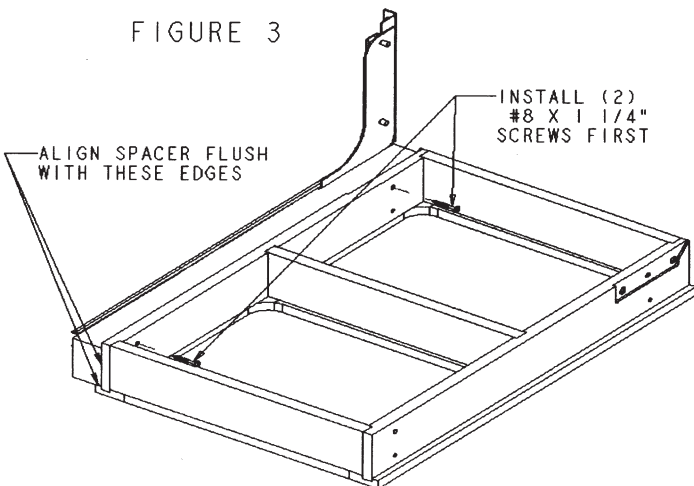

FIGURE 2
Lay the 4WCTM wood frame face down as shown in Figure 2 and remove the (4) t-nuts.
With the 4WCTM wood frame remaining face down, drill (4) additional pilot holes to attach the side spacers, see Figure 2. Locate each hole approximately 1 1/2" below the hole where the t-nut was removed in step 5. Drill a 3/16" hole through the frame.